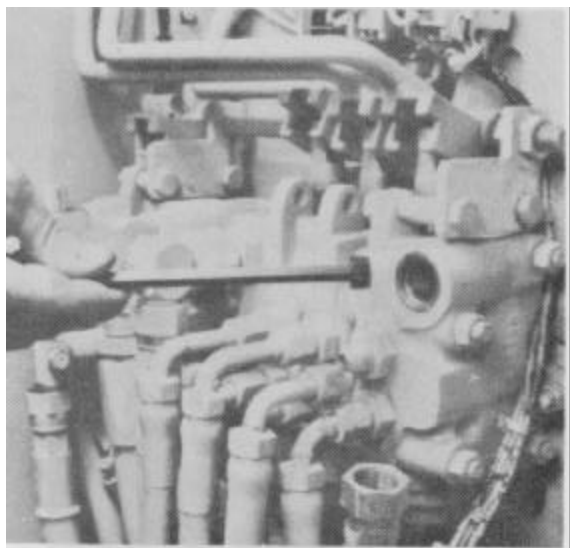
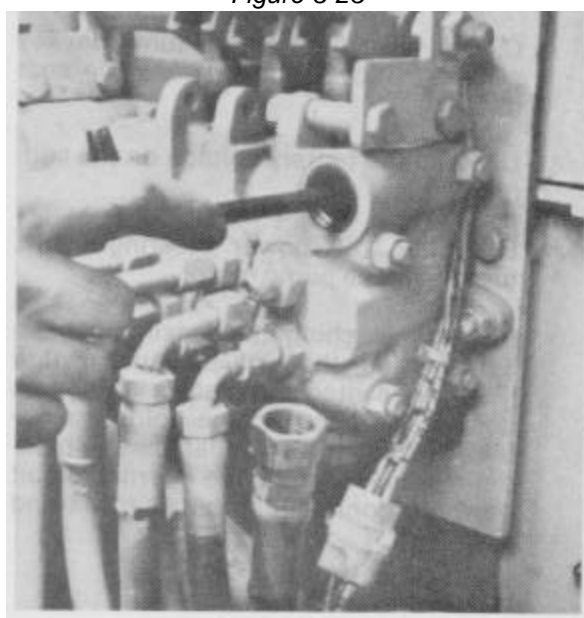

Figure 3-23
Figure 3-24
3.52 Continual running of the pump motor, and loss of system pressure may be due to loss or looseness of the reservoir/carryover separator plug (Fig. 3-23, Fig. 3-24).